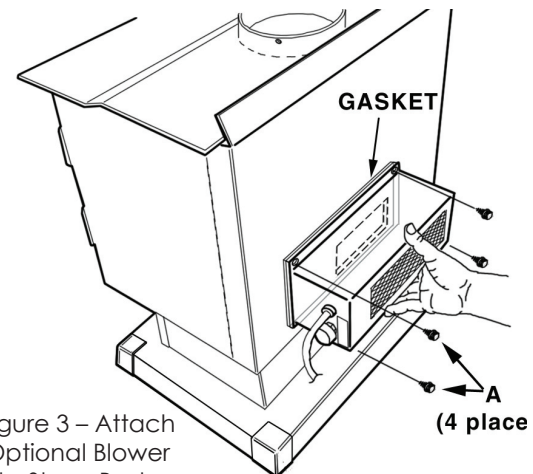

Figure 3 – Attach
1. For Optional Blower Assembly, note the position of the blower opening in the rear of the stove (fig. 3).